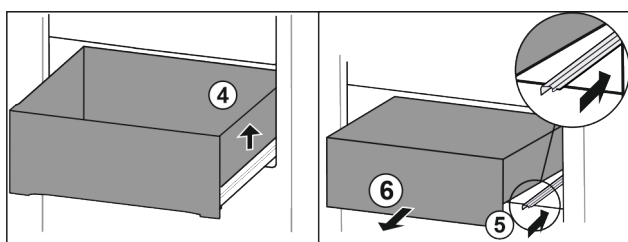

Fig. 89
- ▶ Lift drawer on the right. Fig. 89 (4)
- ▶ Insert right rail. Fig. 89 (5)
- ▶ Remove drawer to the front. Fig. 89 (6)